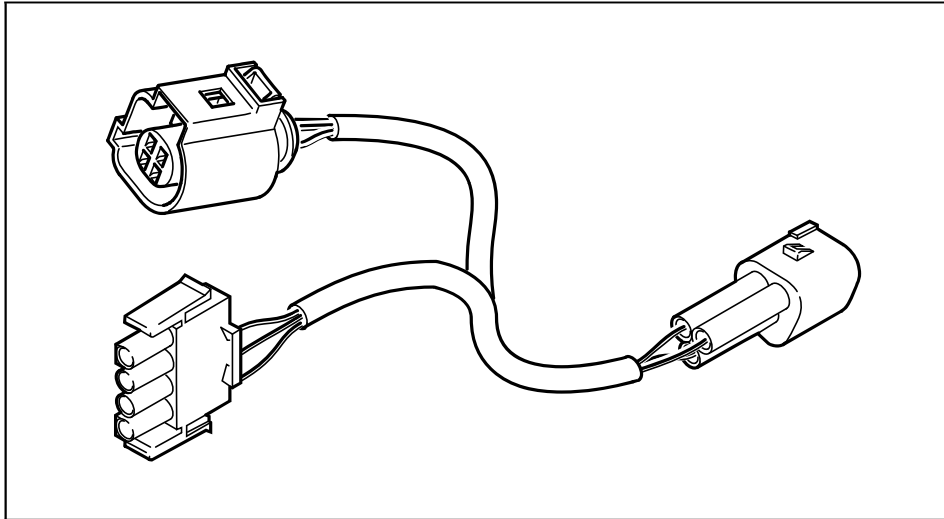

Fig. 1: Supplied adapter wiring harness (2710933_)
Plug the four-pole connector of the adapter wiring harness (Fig. 1) into the diagnostic socket (D) at heater.